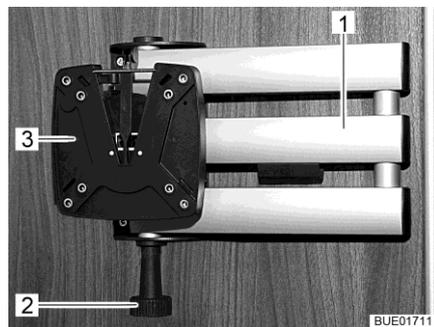

Fig. 85 Holder with jointed arm
- Pull the release knob (Fig. 85,2). The jointed arm (Fig. 85,1) is unlocked.
- Turn the flat screen back into the original position until you hear the holder (Fig. 85,3) engage in the lock.